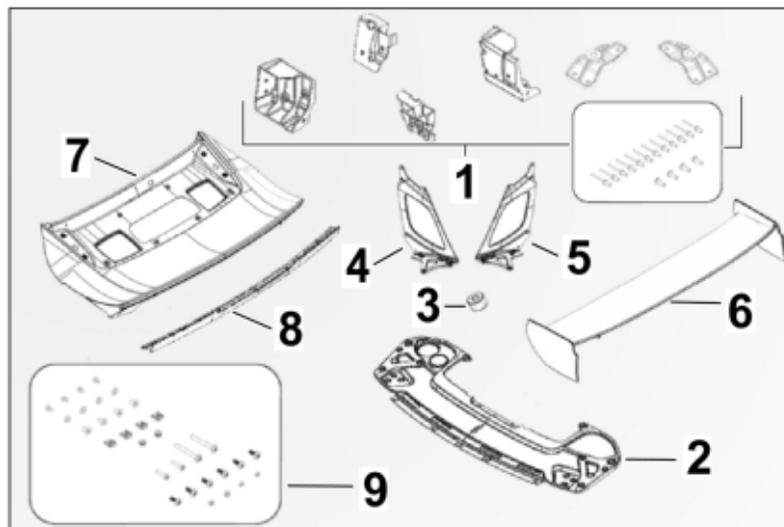

Figure 43
- ⇒ **Figure 43 -1-** – Rear body reinforcement set
⇒ **Figure 43 -2-** – Mounting bracket GT2 RS kit – 991.044.806.08
⇒ **Figure 43 -3-** – Mounting bracket spacer
⇒ **Figure 43 -4-** – Left wing support GT2 RS kit – 991.044.806.05
⇒ **Figure 43 -5-** – Right wing support GT2 RS kit – 991.044.806.06
⇒ **Figure 43 -6-** – Rear wing GT2 RS kit – 991.044.806.17
⇒ **Figure 43 -7-** – Trunk lid CFK GT2 RS kit – 991.044.806.25
- ⇒ **Figure 43 -8-** – Gurney GT2 RS kit — 991.044.806.26
- ⇒ **Figure 43 -9-** – Aero parts fastening kit — 991.044.806.30
- ⇒ **Figure 43 -1-** – **Body adhesive is also required**
Scope of parts for "Rear body reinforcement" set (⇒ **Figure 43 -1-**):